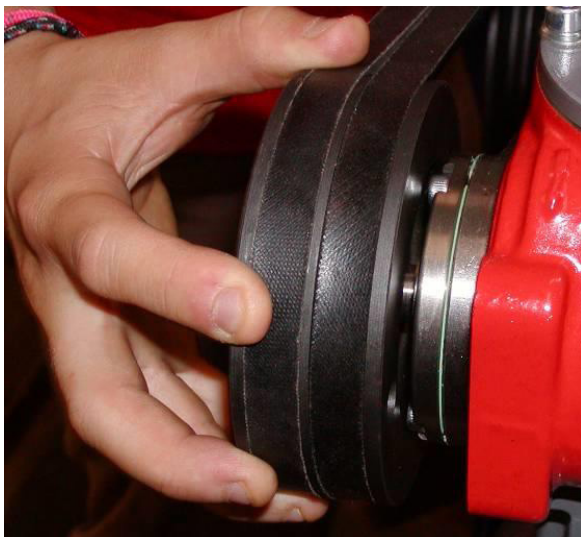
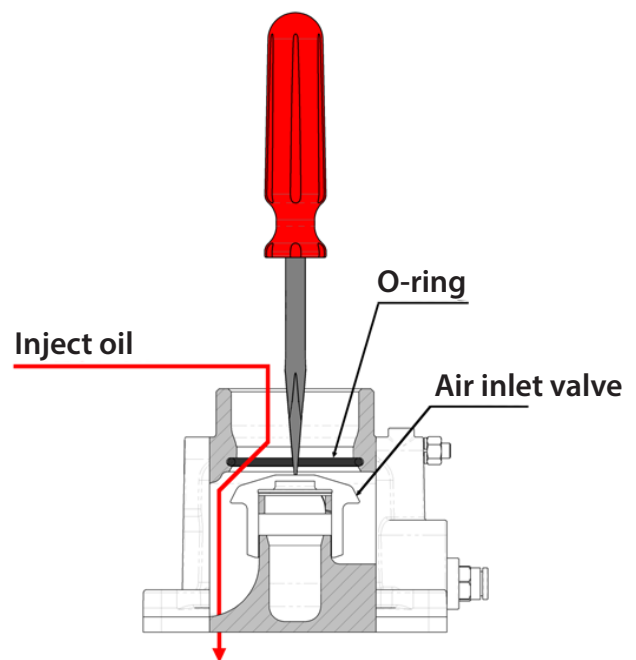

FIGURE 6
FIGURE 7
1. Before starting the compressor, inject about 12 ounces (0.4L) of RS8000 synthetic lubricating into the intake valve air inlet, keeping the valve pressed down, and at the same time, manually rotating the rotors in the right direction (figure 6). While pressing down the throttle, be careful to avoid damages to the throttle O-ring seal (figure 7).